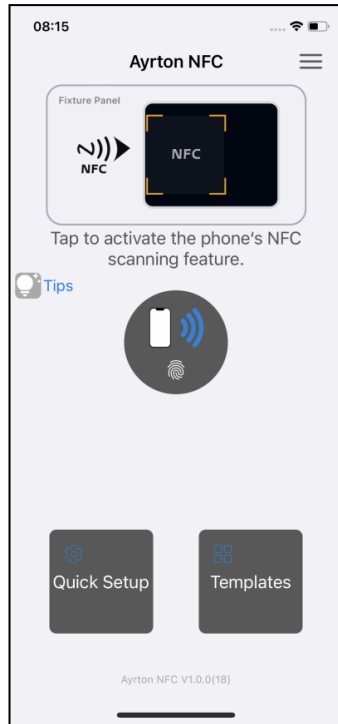
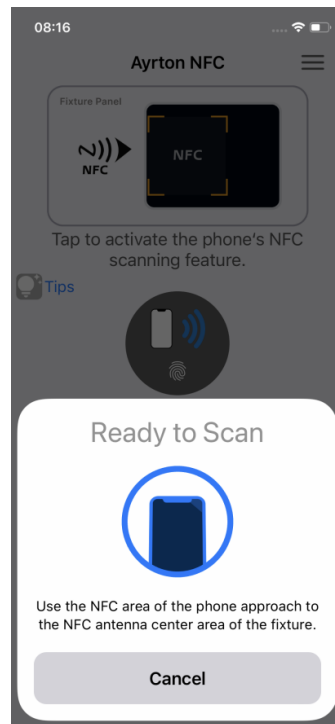
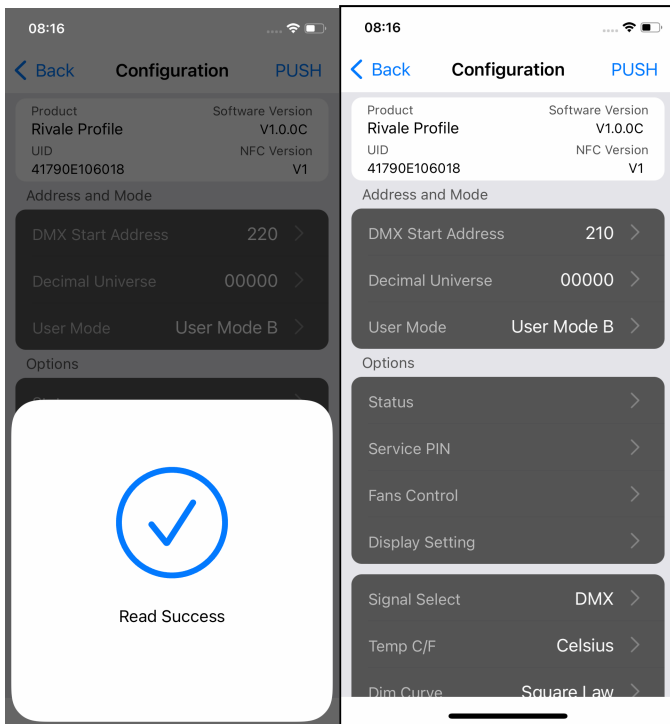
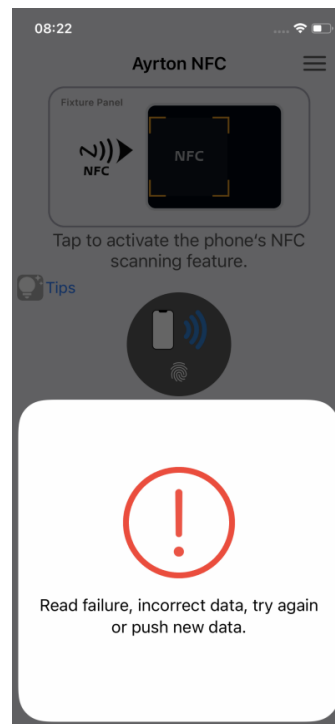

Figure 1
Figure 2
Figure 3
Figure 4
- 1) Open the Ayrton NFC App (as shown in Figure 1), tap the button to activate NFC scan (Figure 2), place the NFC scan area of your mobile phone close to the NFC tag area of the fixture, it will show the setting and configuration page after reading successfully (Figure 3). If the reading fails, it can be reread, or the device can be powered on again (Figure 4).